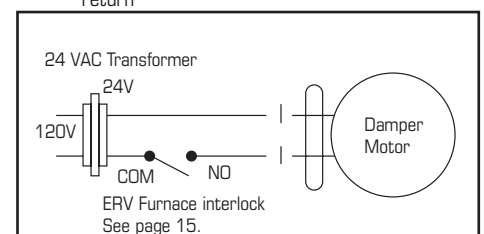

Figure 1
**If the ERV is installed such that the homeowner may turn off the ERV during the winter, we recommend installing a motorized damper between the ERV's supply air and the furnace's return air duct that closes when the ERV is not operating. See wiring diagram (figure 1). You may also choose to use a Fantech ERV that uses a recirculation defrost that incorporates an outdoor air damper.**